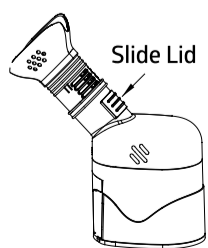

Fig. 3
11. Adjust the slide lid for a comfortable treatment (See figure 3). Slide the lid down to make temperature of steam less hot. This position is better for children and people with irritated mucous membranes or hypersensitivity of the respiratory system. Slide the lid up to increase the steam temperature. The procedure will be more intense this way.